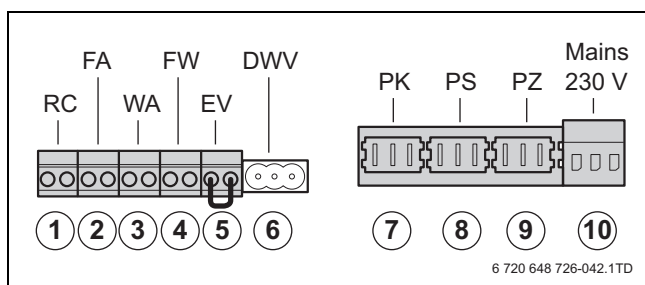

Fig. 42 Terminal strip connections
DANGER: Danger of fatal accident due to electric shock. Items 1 – 6 are low-voltage connections and items 7 – 10 are 230 V-connections (→ fig. 42).
- ▶ Please be aware that there may be a voltage on items 7 – 10 (230 V), when power is supplied to the boiler.